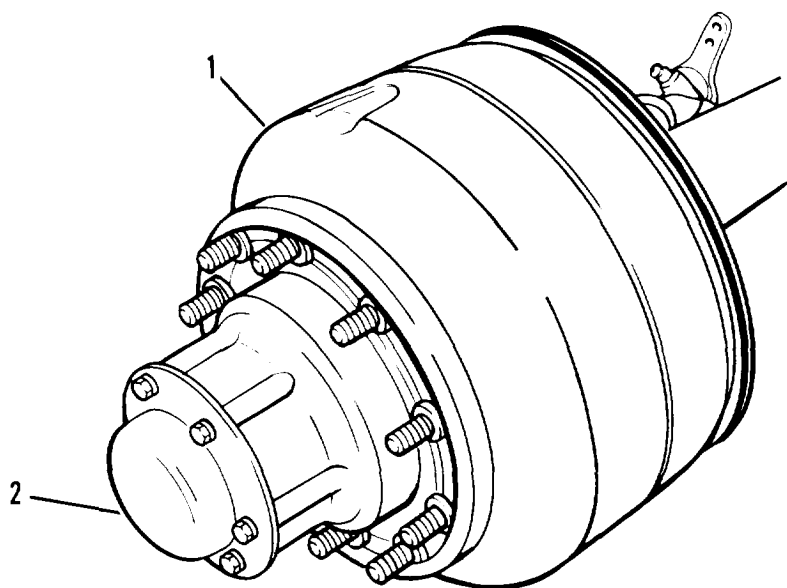

Figure 4-38. Hub and brake drum
b. Brake Drums. The brake drum (1, figure 4-38) is attached to the hub with ten nuts and studs. A hub cap (2) and gasket, fastened by six screws and washers over the center of the hub, excludes moisture and dirt.